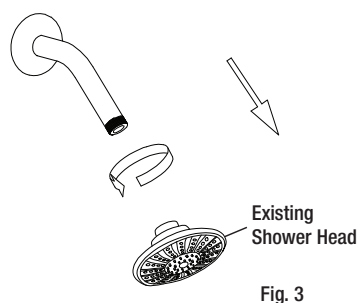

Fig. 3
1. Unscrew your existing shower head from the current shower arm, see Fig. 3.